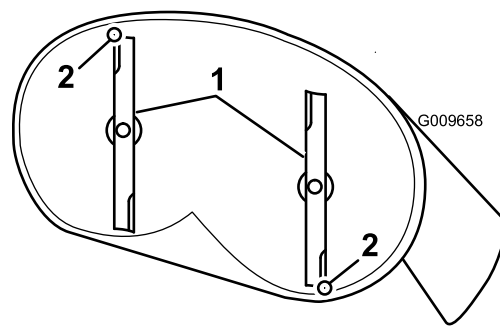
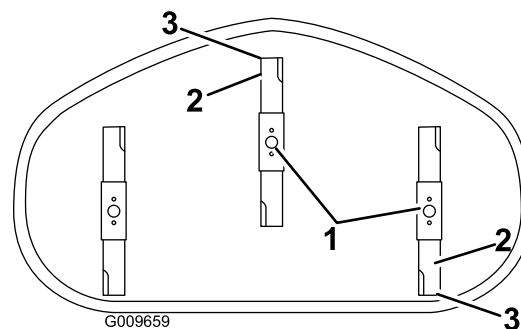

Figure 70
Figure 71
4. Carefully rotate the blades so they are facing front to rear (Figure 70 and Figure 71).
5. Measure from the tip of the front blade to the flat surface, and the tip of the rear blade to the flat surface (Figure 70 and Figure 71).
9. After adjustment, check the front-to-rear slope again, continue adjusting the nut until the front blade tip is 1.6 to 7.9 mm (1/16 to 5/16 inch) lower than the rear blade tip (Figure 70 and Figure 71).